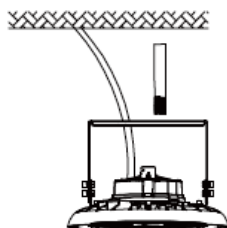

Fig. 9
2. Insert 1/2" NPT stem into the bracket hole. (Fig. 9)